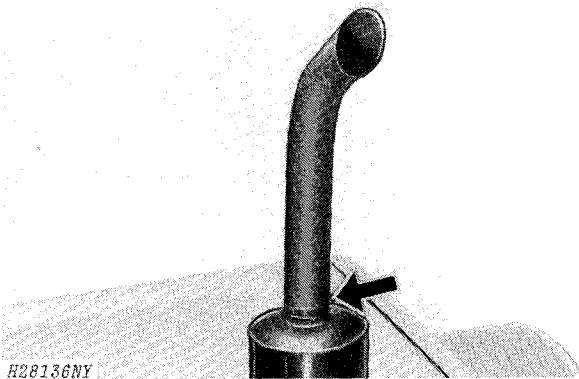

Fig. 10-Attaching Exhaust Extension
2. Attach engine exhaust extension with clamp (Fig. 10). Be certain extension opening is positioned to the rear.